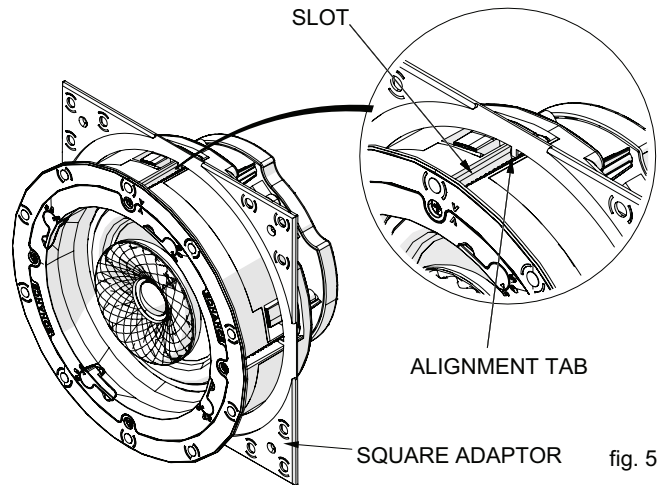

fig. 5
- Align the square adapter alignment tabs with the slots on the speaker and press the adapter to the speaker until they are firmly together (fig. 5). This will allow the grille to fit to the surface properly and ensure a level placement.